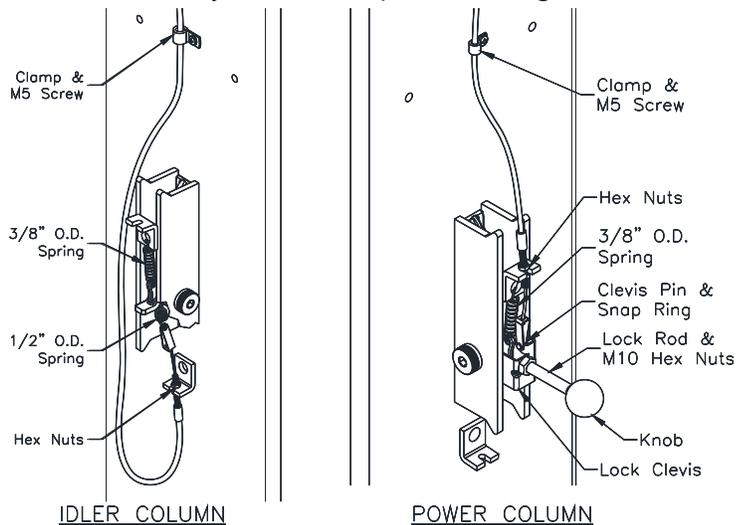

Fig. 9 – Lock Assembly
- 30) Attach Mechanical Lock Release Cable Assembly to each lock pawl. See **Fig 9**.